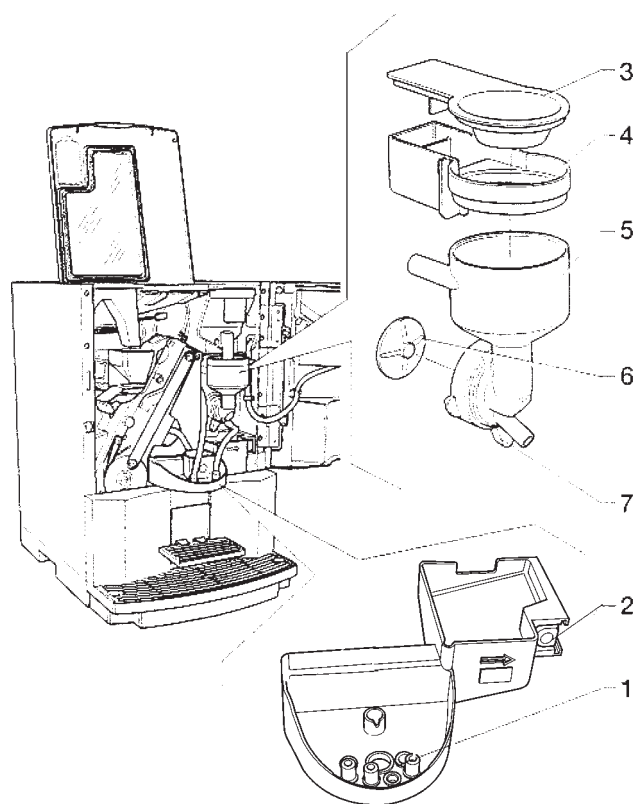

Fig. 10
- remove the powder and the water funnels, the feeders, the powder deposit drawers and the mixer wheels from the mixers (see Fig. 10);